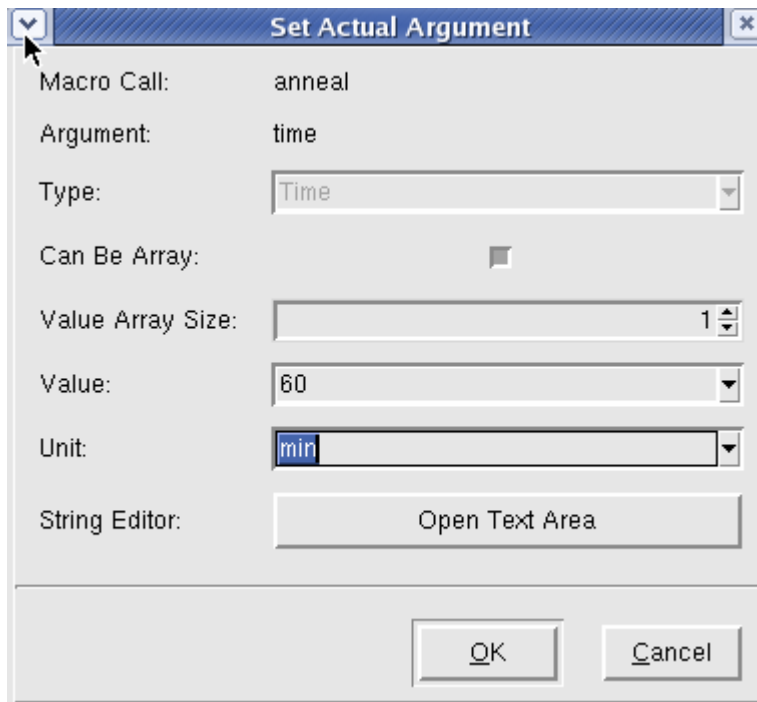
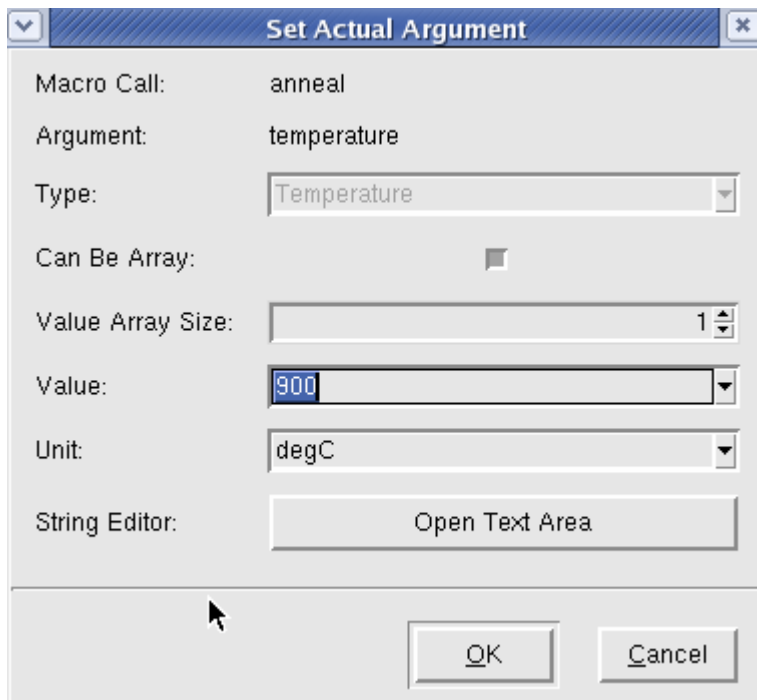

Figure 65: Add and anneal step (time =60 min).
Figure 66: Setting the temperature.
11. To diffuse the Phosphorous into the p-type Si add an anneal step, by copying it from the process area to the Flow area. Change the time to 60 min (Figure 65). And the temperature to 900 degC (Figure 66).